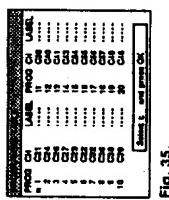

Fig. 35.
- From the main menu, select "Programme Table" with  $\text{o} + \text{s} -$  and press OK. The PROGRAMME TABLE menu appears. (See Fig. 35.) To scroll to higher programme numbers, press  $\text{o} + \text{s} -$ . To select a programme using this menu Select the programme number with  $\text{o} + \text{s} -$  and press OK. The selected programme appears.